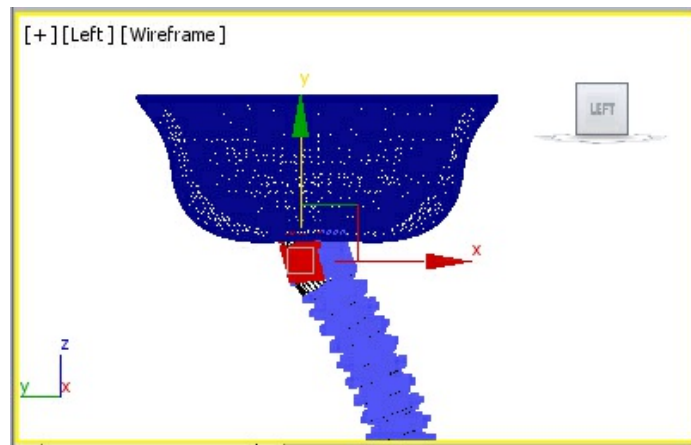

Figure 10-71 The vertices of duct aligned in the Left viewport
15. Convert *duct* into editable poly and select the **Vertex** sub-object level. Next, move and rotate its vertices to align with *washbasin* in the Left viewport, as shown in Figure 10-71.